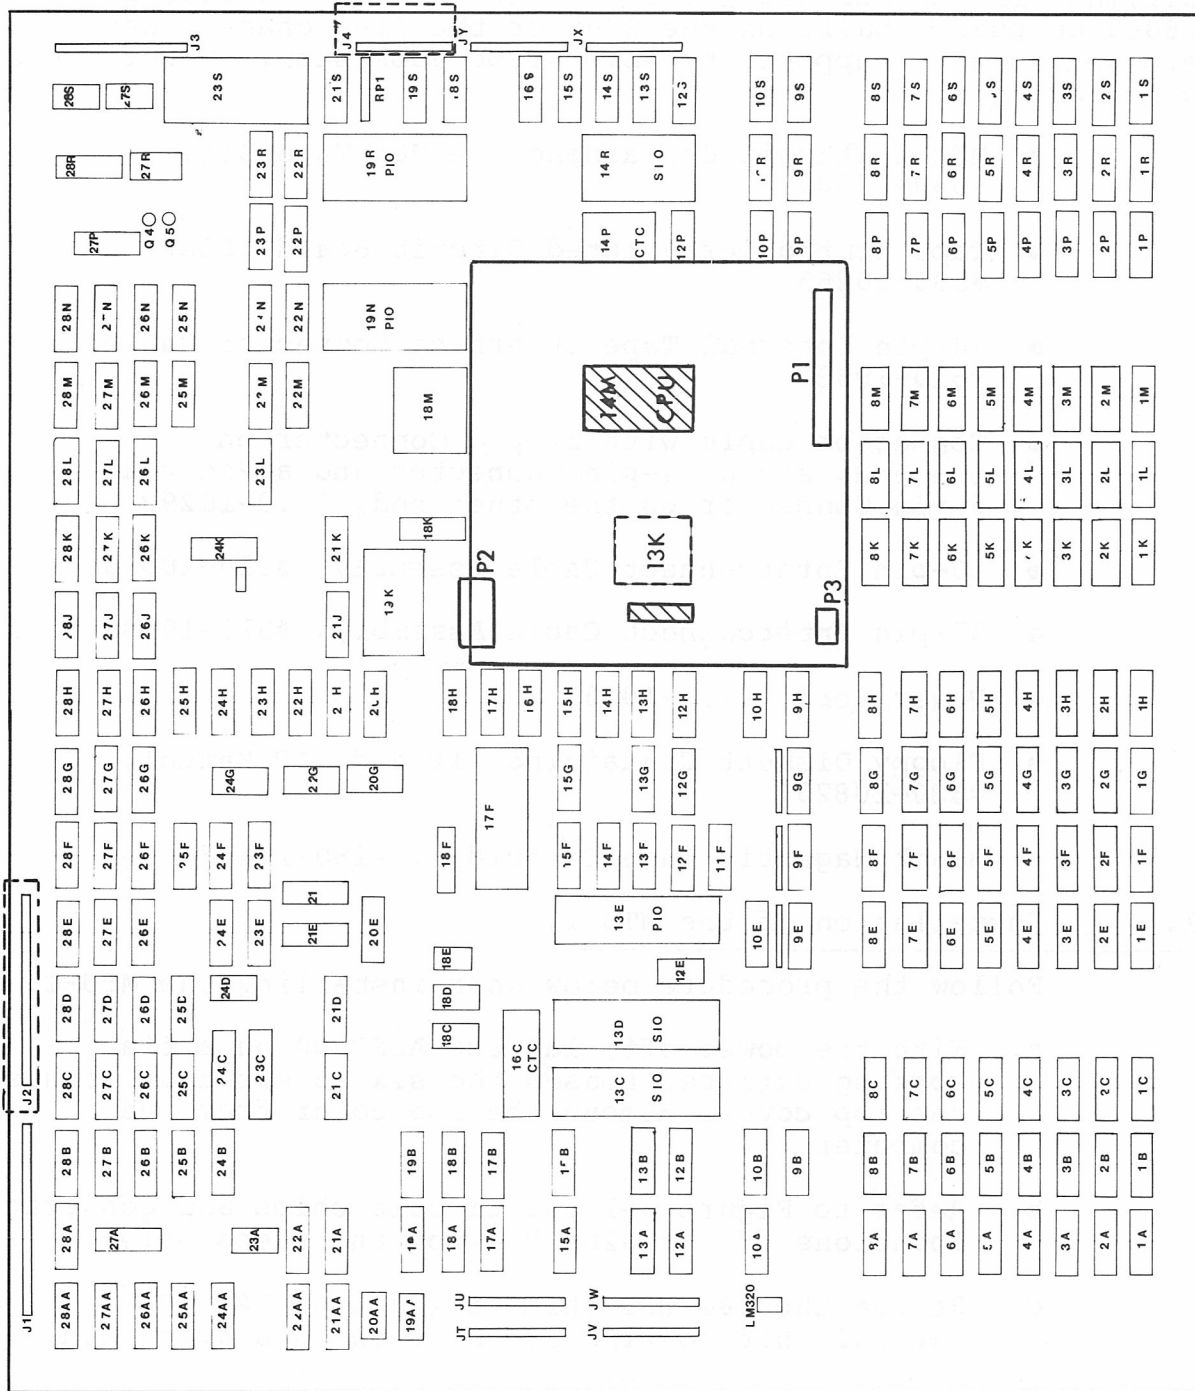
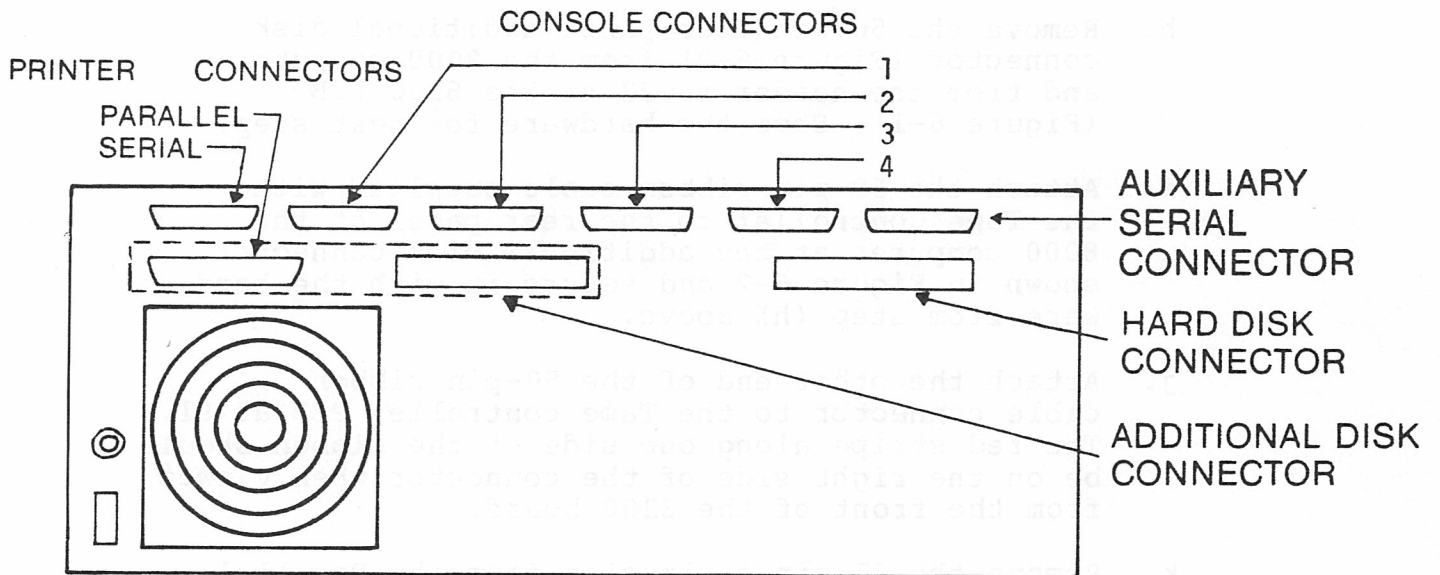

Figure 6-1 8200 PCB with Tape Controller PCB Mounted
Figure 6-2 Rear Panel of ACS8000 Computer
- b. Refer to Figure 6-1 for circuit chips and connector locations of the 8200 PCB for the steps below.
- e. Locate and remove the white six-wire power connector; it is to the left of Matrix position 13K on the 8200 CPU PCB (See Figure 6-1).
- h. Remove the 50-pin rear panel additional disk connector (Figure 6-2) from the 8000 computer and from the header at J2 of the 8200 PCB (Figure 6-1). Save the hardware for next step.
- i. Attach the 50-pin ribbon cable supplied with the Tape Controller to the rear panel of the 8000 computer at the additional disk connector shown in Figure 6-2 and secure it with the hardware from step (h) above.
- k. Remove the 37-pin cable slot from the Parallel Port slot on the rear panel of the 8000 computer (See Figure 6-2); remove the other end of the cable connector (34-pin) from the header at J4 on the 8200 PCB. Save the hardware for the next step.